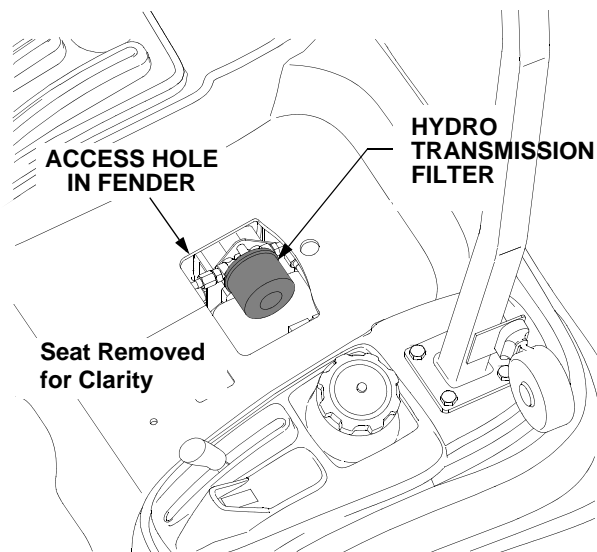

Figure 43
- Through the access hole in the rear fender, clean the area around the hydro transmission oil filter to prevent debris from entering the hydraulic system. Refer to Figure 43.
- Stuff shop rags underneath the hydro transmission filter to absorb any lost oil when the filter is removed. Refer to Figure 43.